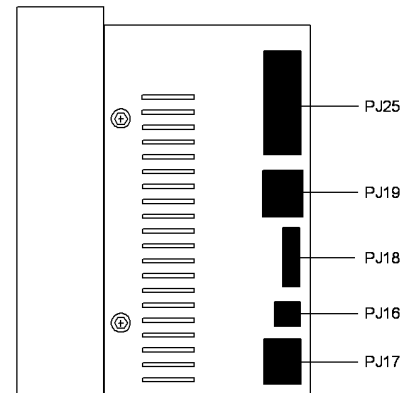

Figure 7 LVPS
10. **Figure 7.** Disconnect all of the PJs from the LVPS.